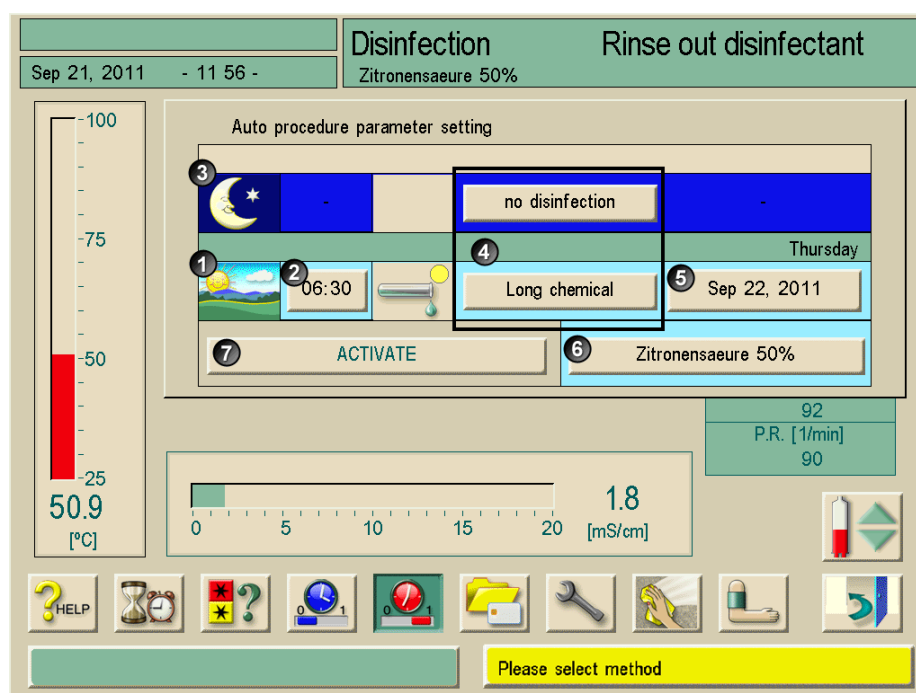

Fig. 7-7 "Disinfection" screen
- Touch button for disinfection method (4, Fig. 7-7).
- Set switch **ON** time (2, Fig. 7-7).
- Touch button "Activate" (7, Fig. 7-7).